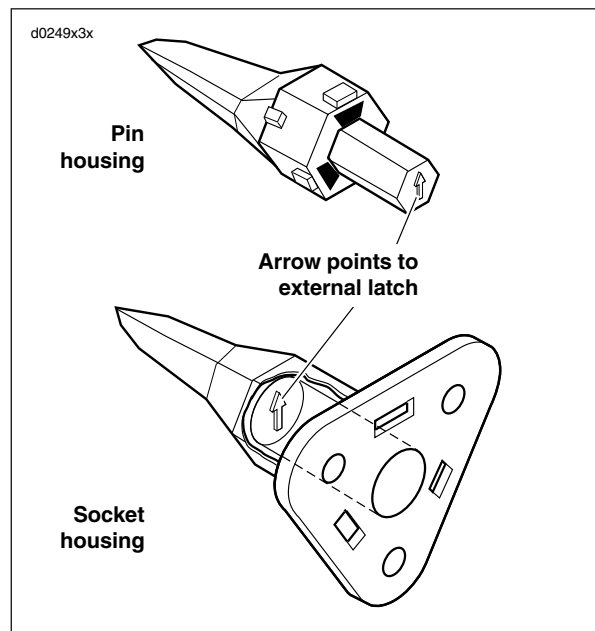

Figure B-9. Depress Terminal Latches/Back Out Pins
- While rectangular wedges do not require a special orientation, the conical secondary locking wedge of the 3-pin connector must be installed with the arrow pointing toward the external latch. See Figure B-9.
- While rectangular wedges do not require a special orientation, the conical secondary locking wedge of the 3-pin connector must be installed with the arrow pointing toward the external latch. See *Figure B-9*.